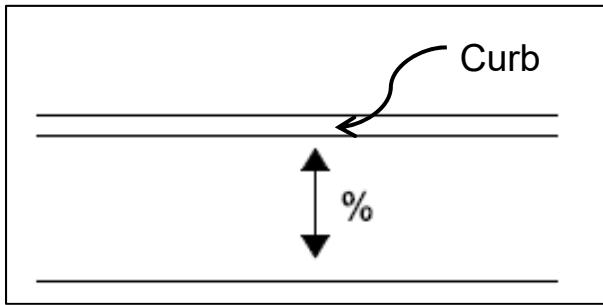

Figure 21 - Accessible Route Cross Slope
- Cross slopes do no exceed 1.5% (see **Figure 21**). *PROWAG R302.6; TDOT Ped Standards*